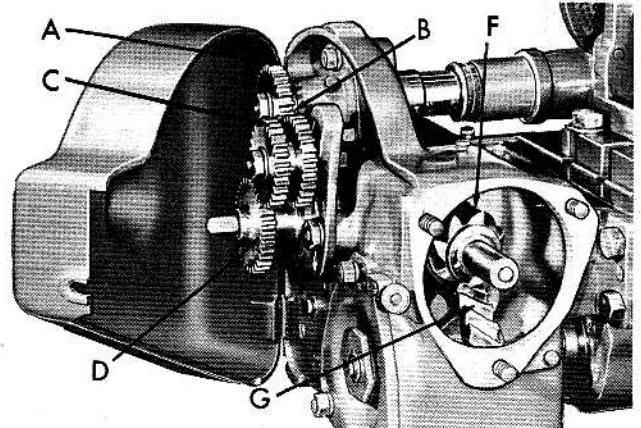

Fig. 9. Gearing in Low Lead Attachment.
3. Remove the cover (K) and the table screw extension (L) from the lead attachment.
4. Lift the lead attachment into position on the table screw and auxiliary drive shaft so that the two dowels (H) enter the two "H" dowel holes.
5. Insert the four screws (J) to secure the attachment in position.
6. Position the worm and worm wheel (F and G, Figure 9) according to the lead selected, then replace the table screw extension and the cover.
Figure 9 illustrates the position of the worm and gears in the lead attachment and identifies each by means of a letter. The particular worm, worm wheel and gear to use in each position for a desired lead are listed in Table 3 at the rear of this book.
The values of A, B, C and D are the number of teeth in the gears A, B, C and D in Figure 9.